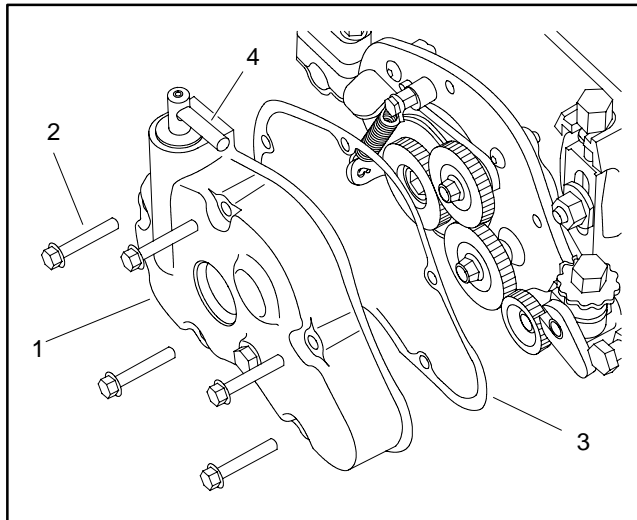
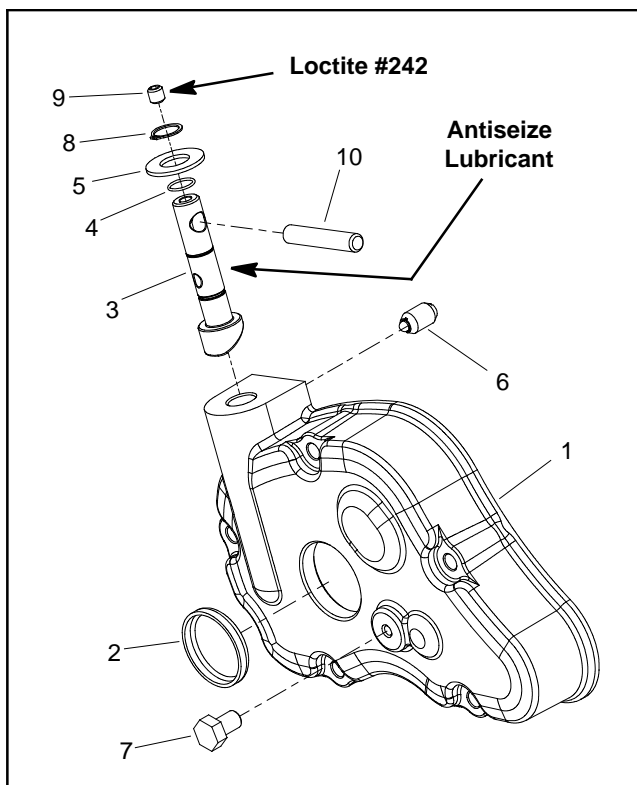

Figure 4
Figure 5
4. Remove groomer cover assembly from machine (Fig. 4):
A. Remove five (5) flange head screws that secure groomer cover assembly to RH drive plate.
5. If necessary, remove shaft from groomer cover (Fig. 5):
A. Loosen set screw (item 9) on top of shaft and slide handle from shaft.
B. Remove retaining ring (item 8) and thrust washer (item 5) from shaft.
C. Remove plunger detent (item 6) from groomer cover.
D. Slide shaft out of groomer cover. Remove and discard O-ring (item 4) from shaft.
1. If removed, install shaft into groomer cover (Fig. 5):
2. Install groomer cover assembly to RH drive plate assembly (Fig. 4):
B. Fill groomer cover with approximately five (5) ounces (142 grams) of Mobil XHP221 grease (or equivalent).
C. Install new gasket and then groomer cover assembly to RH drive plate. Secure cover with five (5) flange head screws.